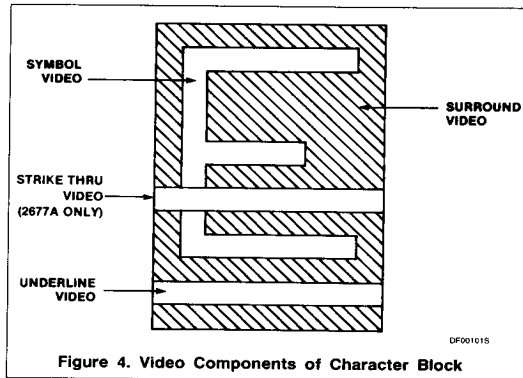

Figure 4. Video Components of Character Block
The video of each character block consists of four components as shown in Figure 4.
3. See Figure 4.